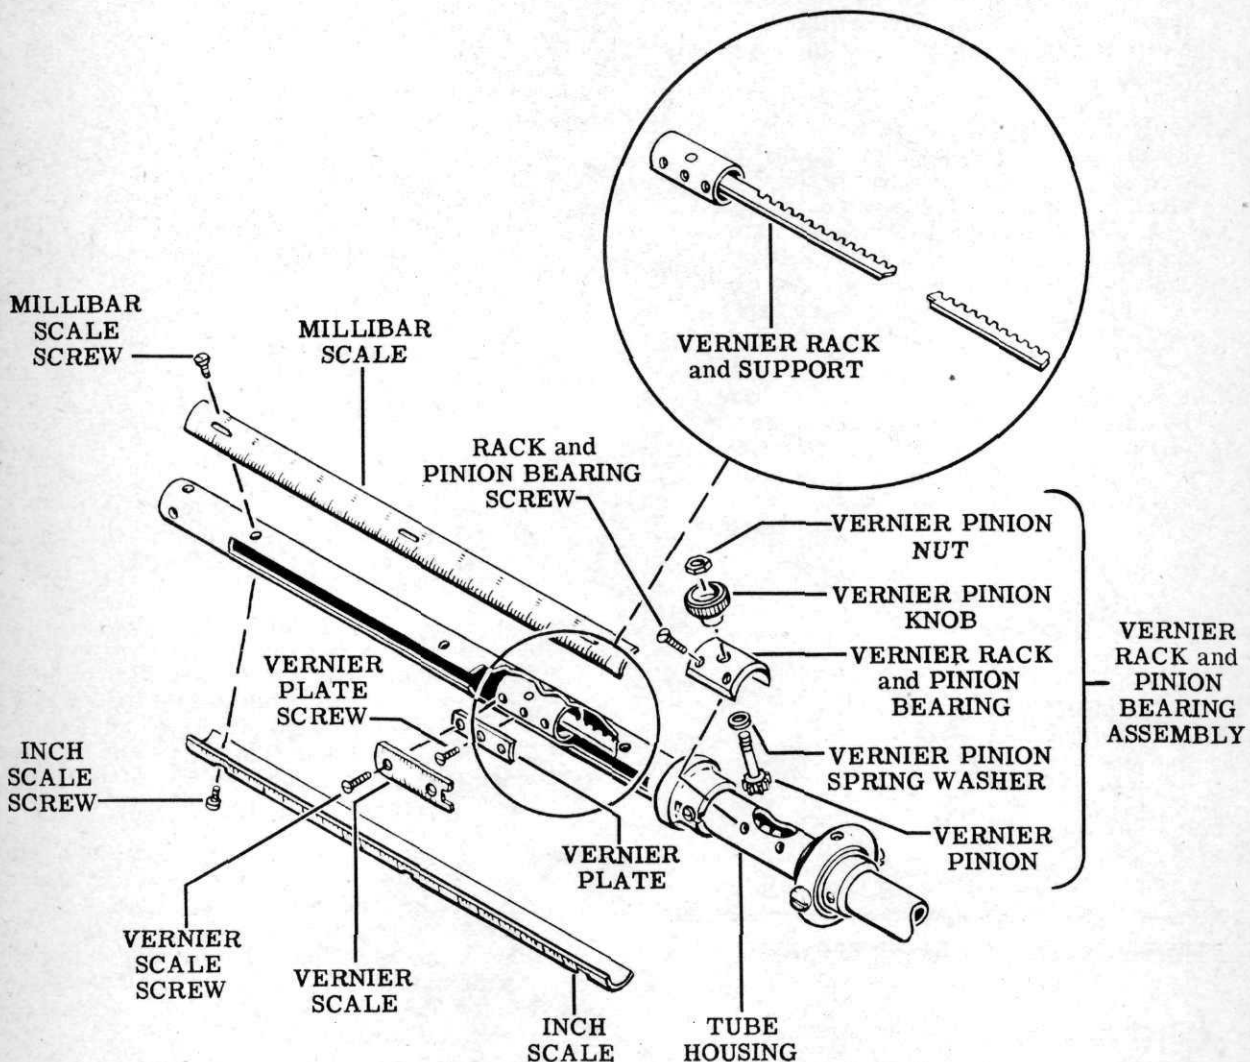
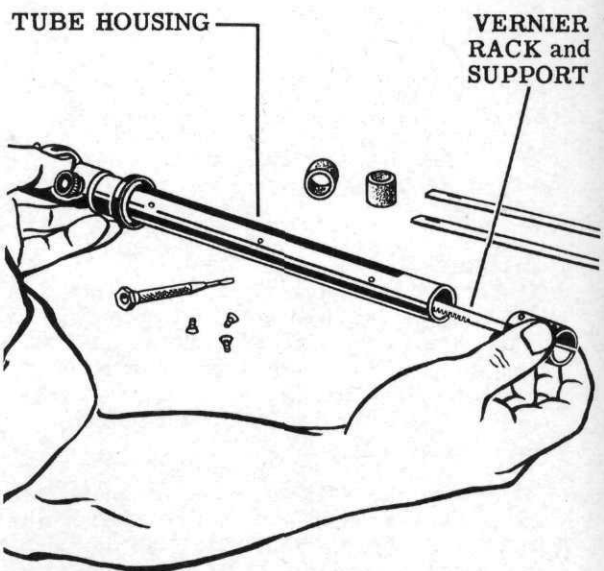

Figure 29
Figure 33
12. Apply a coating of vernier pinion grease to the bearing surface of the vernier pinion. Assemble the vernier pinion in the vernier rack and pinion bearing. See the exploded view, Fig. 29.
A vernier pinion spring washer will be provided in the parts tray. Assemble this washer on to the vernier pinion before assembling the pinion into the vernier rack and pinion bearing. See the exploded view, Fig. 29.
four rack and pinion bearing screws. See the exploded view, Fig. 29.
17. Apply a thin coating of rack grease to the teeth of the vernier rack and support and along the edge of the rack opposite the teeth. See "Lubrication" in the Control Manual. Insert the rack in the tube housing and engage it in the vernier rack and pinion bearing assembly. Insure that the rack teeth mesh correctly with the vernier pinion; check the movement of the rack and pinion by rotating the vernier pinion knob. See Fig. 33 and the exploded view, Fig. 29.
22. Assemble the inch and millibar scales to the tube housing with the three inch-scale screws, and the three millibar-scale screws. Do not tighten these screws too tightly as further adjustments have yet to be made. See the exploded view, Fig. 29.
25. Assemble the vernier plate to the vernier rack and support with the flat-headed vernier plate screw. See the exploded view, Fig. 29. Check that the head of the vernier plate screw does not protrude above the vernier plate. If it does protrude, then remove the vernier plate screw and file down its head the required amount. Reassemble the screw and check it again.
26. Assemble the vernier scale over the vernier plate with the two vernier scale screws. See the exploded view, Fig. 29. Check the movement of the vernier scale over the entire length of the inch and millibar scales. There should be no gaps between the vernier scale and the inch and millibar scales at any point. Any required adjustments can be made by moving the appropriate scale or by pressing the tube housing in. Refer to Operation 23 and its associated "Note" in this section.